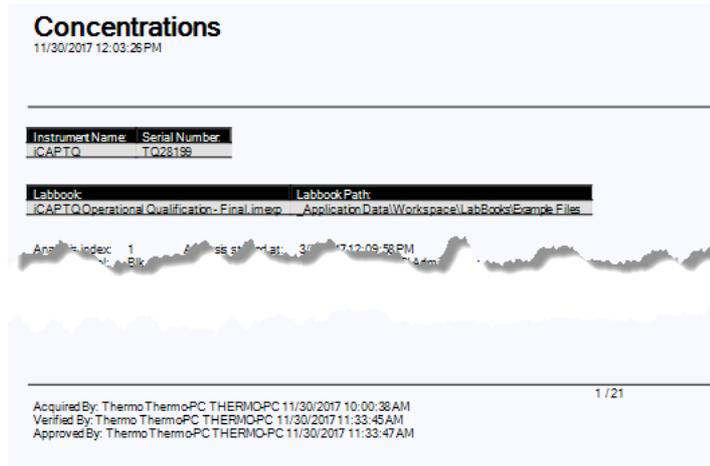

Figure 6-50. Signatures in the Concentrations Report footer
- d. Finally, close and reopen your LabBook to see the signature(s) in the Report's footer, see Figure 6-50.